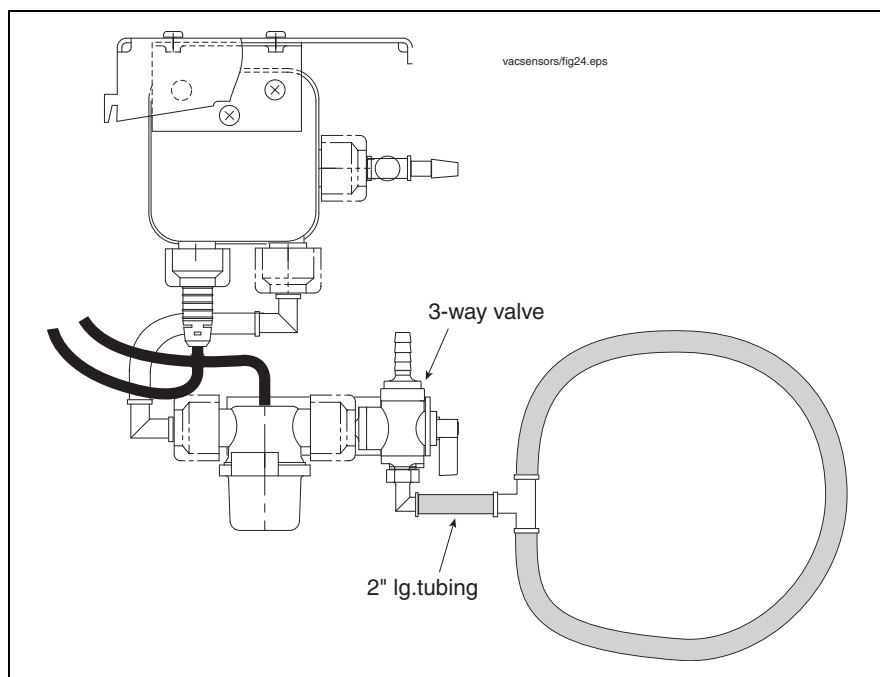

Figure 6-3.- Isolating Vac Float for Leak Test
7. Cut a 2-inch piece of tubing and attach one end to the open fitting on the test loop's tee and the other end to the 3-way valve's input port (see Figure 6-3).